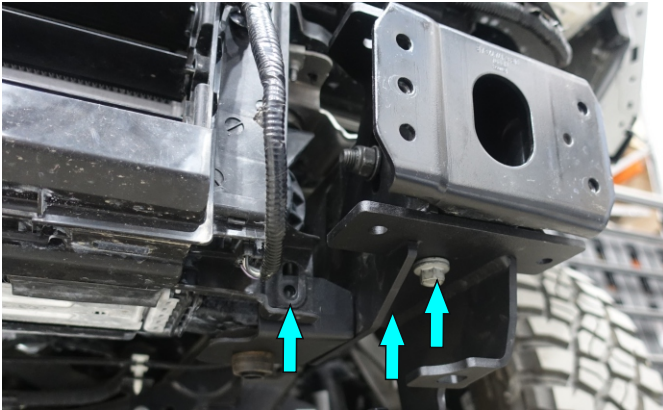

Fig.30
29. Secure left reinforcing bracket (item 23) using factory bolts (fig.30).